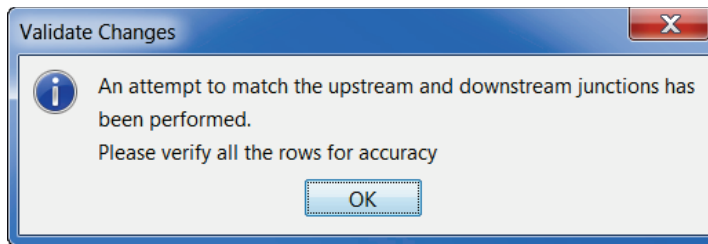

Figure K.12 Validate Changes Window
6. Click **Automatically Match** (Figure K.11), a **Validate Changes** window (Figure K.12) will open. This window is letting the user know that the information that will display in the table (Figure K.13) should be reviewed for accuracy. Click **OK**, the **Validate Changes** window will close, and the table on **HMS Reach to Stream Editor – By Junctions** tab will display with junction information for each HMS reach (Figure K.13). The reach names display in blue, because items have been modified.